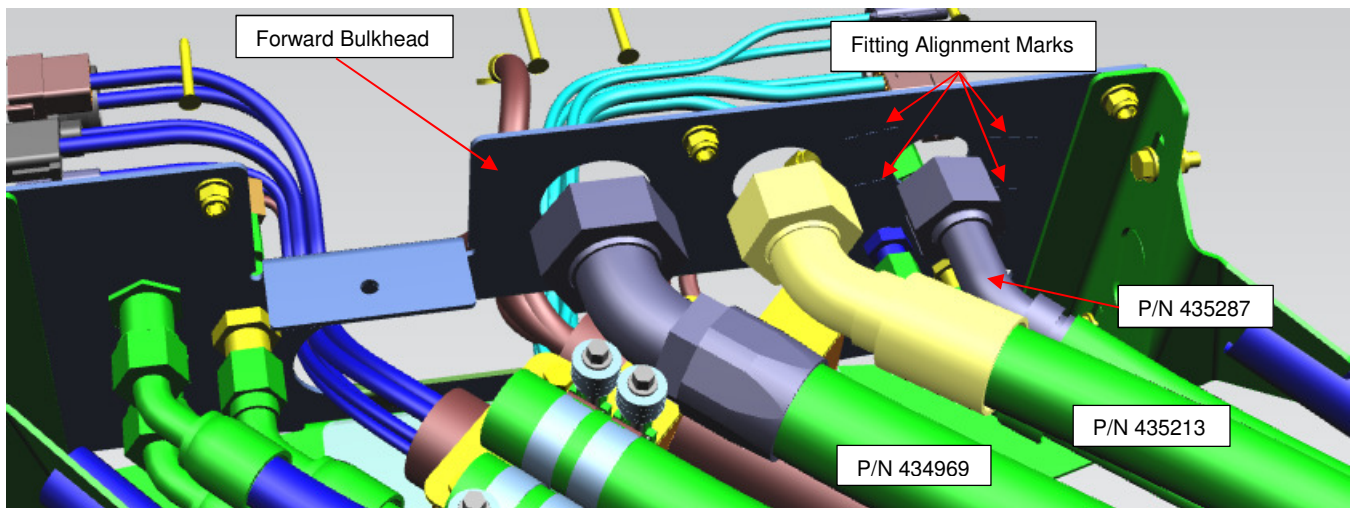

Figure 3: A/C Hoses & Alignment Marks at Forward Bulkhead.
10. At the forward bulkhead, reconnect the hoses to their respective connection points. Note that there are alignment marks on the bulkhead for orienting hose P/N 435213 & P/N 435287. Figure 3.